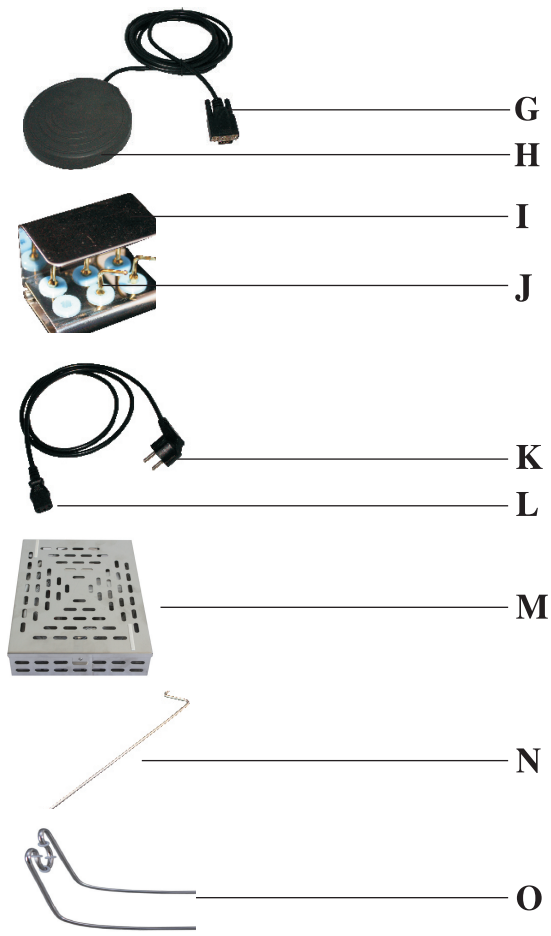

Fig.4
6.3.6 Insert the tube of DS-II (LED) cord to the cord connector on the device (Fig.4—Ref.P);
6.3.7 Put the handpiece on the support (Fig.4—Ref.O);